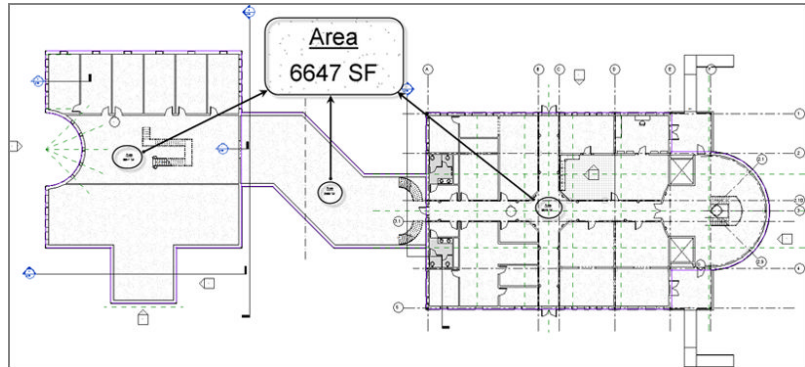

FIGURE 15.27: The plan is divided into three areas.
10. Place an area in the west wing, then in the corridor, and then in the east wing, as shown in Figure 15.27.